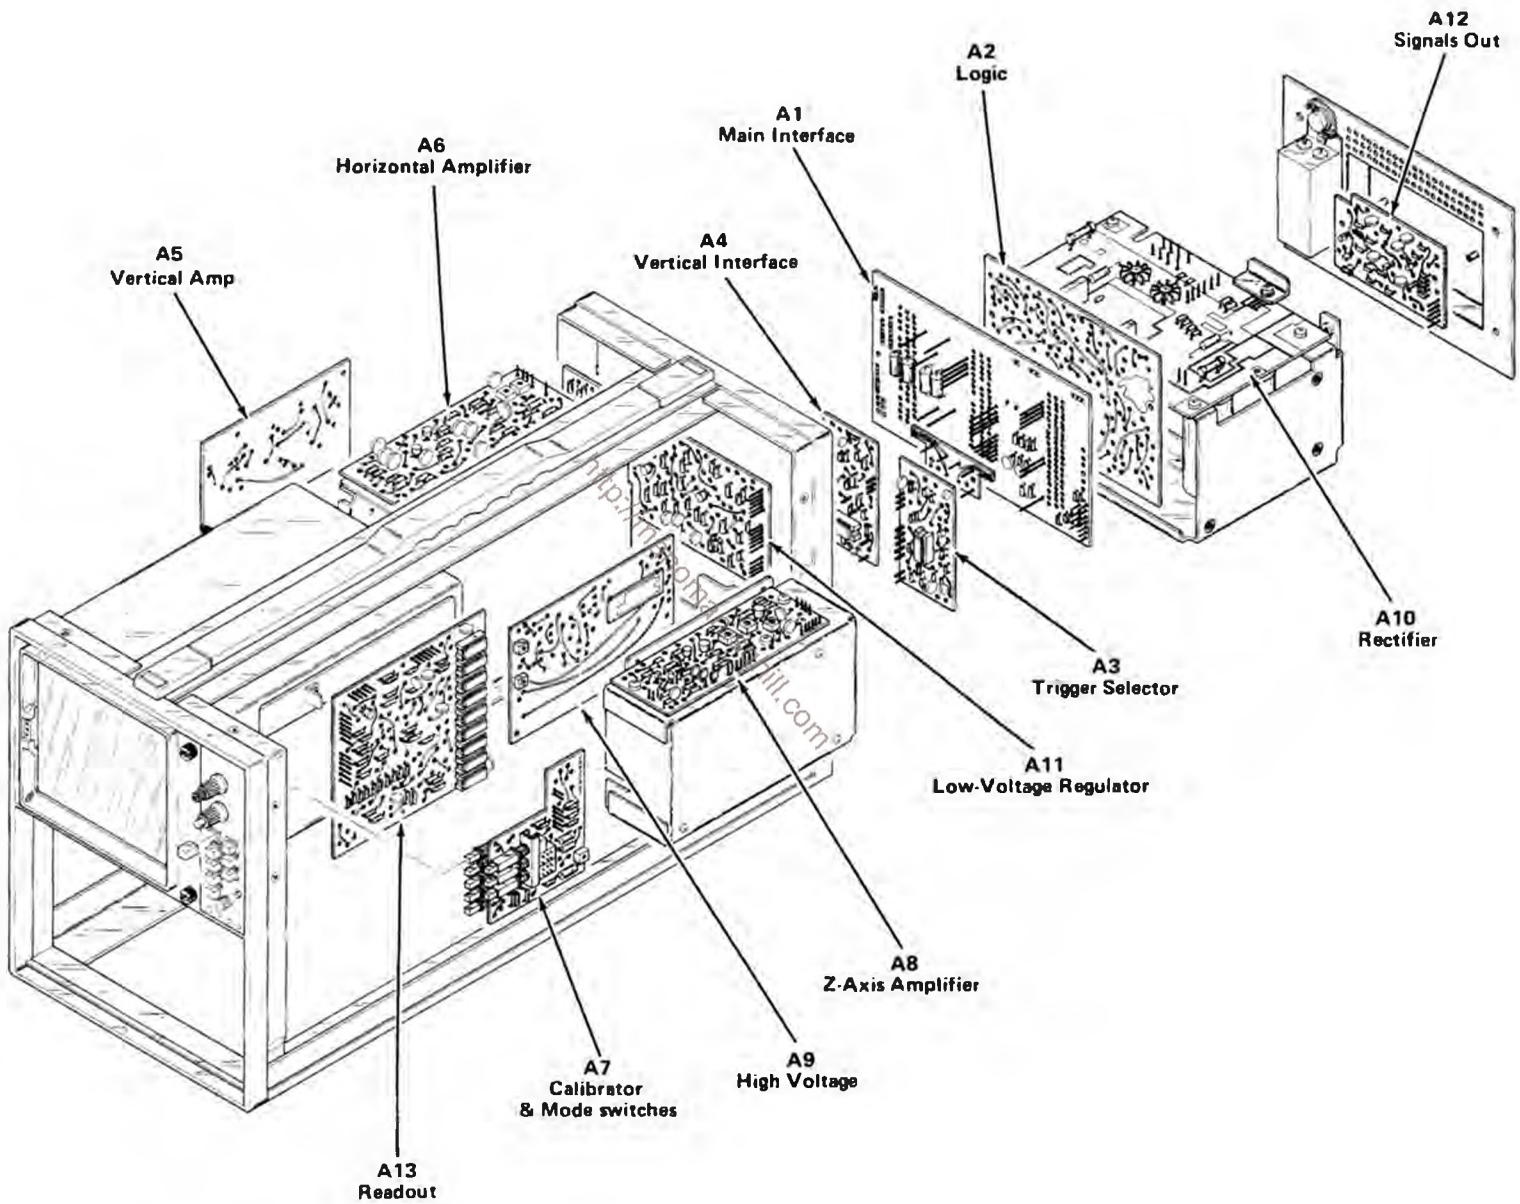
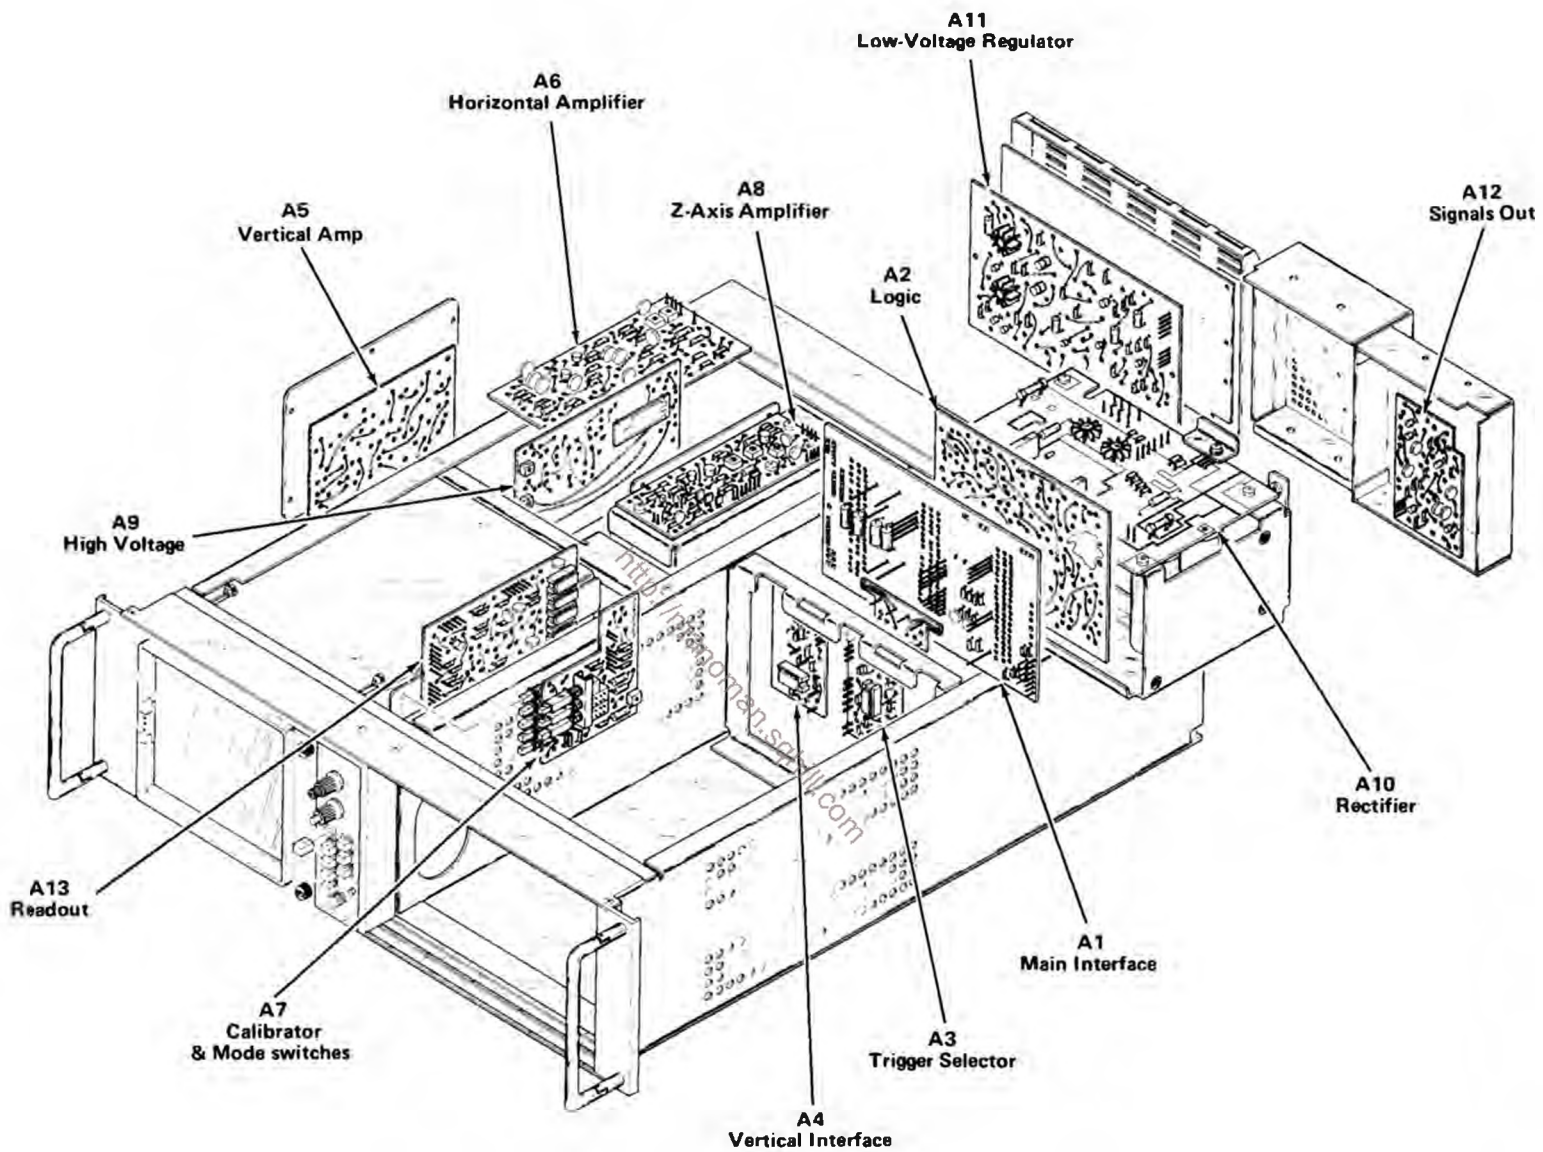

Fig. 5-2. Location of circuit boards in the 7603.
Fig. 5-3. Location of circuit boards in the R7603.
**Circuit Boards.** Fig. 5-2 shows the location of the circuit boards within the 7603; Fig. 5-3 shows the location of circuit boards in the R7603. Pictures of these circuit boards are shown in Figs. 8-1 through 8-10. These pictures are located in the Diagrams section on the back of the page opposite the circuit diagram, to aid the cross-referencing between the diagrams and the circuit-board components. Each electrical component on the boards is identified by its circuit number. The color and location of the inter-connecting connectors are also shown. The circuit boards are also outlined on the diagrams with a blue line to show which portions of the circuit are located on a circuit board.
**Resistor Color-Code.** In addition to the brown composition resistors, some metal-film resistors and some wire-wound resistors are used in the 7603. The resistance values of wire-wound resistors are usually printed on the body of the component. The resistance values of composition resistors and metal-film resistors are color-coded on the components with EIA color-code (some metal-film resistors may have the value printed on the body). The color-code is read starting with the stripe nearest the end of the resistor. Composition resistors have four stripes which consist of two significant figures, a multiplier, and a tolerance value (see Fig. 5-2). Metal-film resistors have five stripes consisting of three significant figures, a multiplier, and a tolerance value.